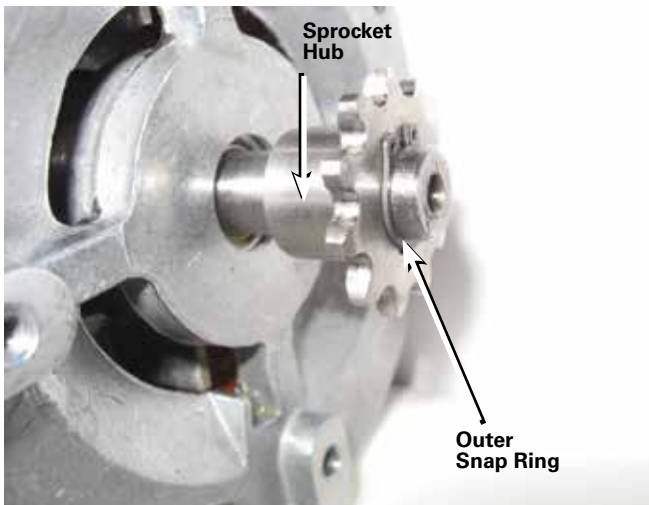

Figure 115. Placement of the sprocket.
- Align the sprocket keyway with the woodruff key on the motor shaft. Slide the sprocket onto the motor shaft with the sprocket hub end towards the motor. Install the second snap ring into the outer snap ring groove using a snap ring pliers. Refer to Figure 115.